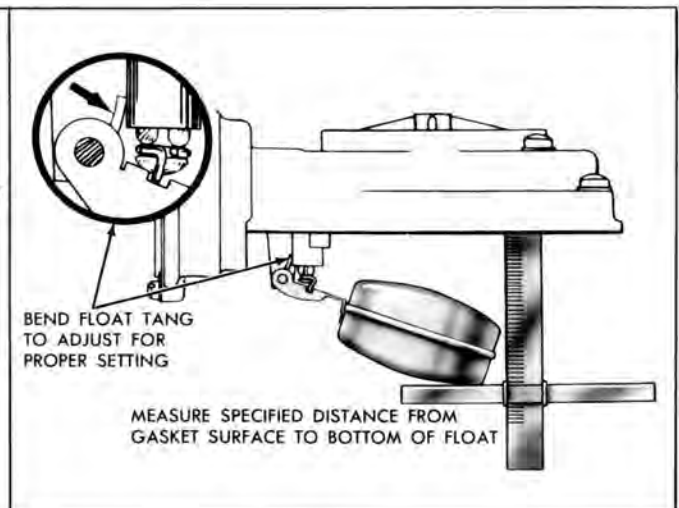

Fig. 10
2. Measure the distance from the air horn gasket surface to the lowest point of the float, see Fig. 10. Dimension should be 1 3/4".